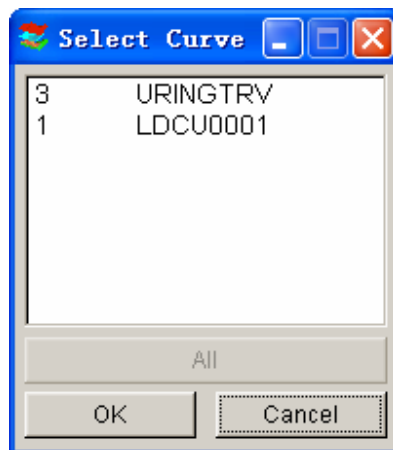

Figure 11.11.9 Select Curve for Renumber
- Select a curve from the SELECT CURVE dialog window as shown in Figure 11.11.9